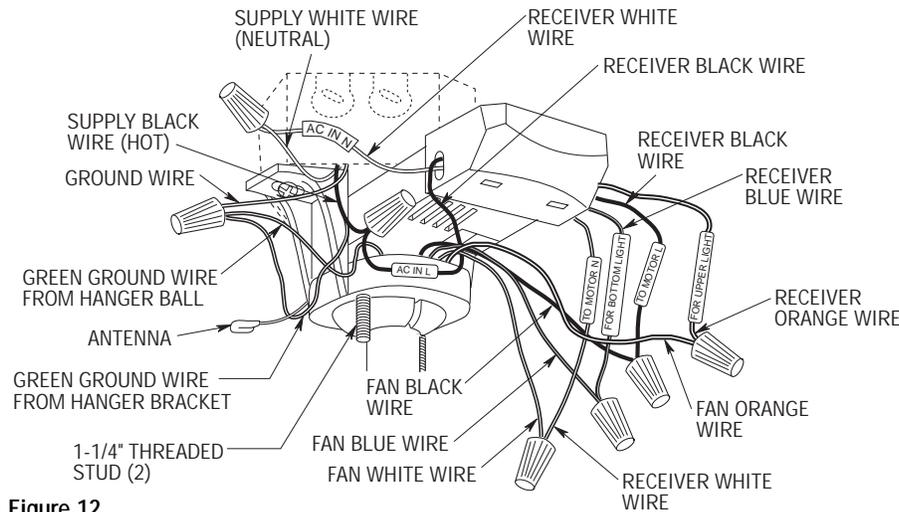

Figure 12
1. Position the supply wires to the left side of the outlet box (Figure 12); position the fan wires to the right side. Partially insert the remote control receiver (flat side up) until one end rests on the hanger ball as shown in Figure 12.
2. Refer to Figure 12 and 13 and connect the receiver wires to the supply wires and the fan motor wires as follows:
- 4. Screw the two 1-1/4" threaded studs (supplied) into the tapped holes in the hanger bracket (Figure 12).